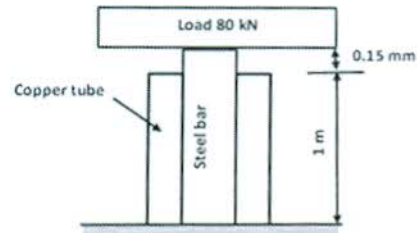

Fig. 2.
Q.3A Draw the stress strain curve for mild steel (MS) subjected to tension and indicate the salient points. 05
Q.4A A mild steel bar of cross-sectional area 490 mm^2 is surrounded by a copper tube of area 210 mm^2 as shown in Fig. 2. When they are placed centrally over a rigid base, it is found that the steel bar is 0.15 mm longer. Over this unit, a rigid plate carrying a load of 80 kN is placed. Find the stresses in each bar if the length of the composite bar is 1 m . $E_s = 200 \text{ GN/m}^2$ and $E_c = 104.7 \text{ GN/m}^2$.